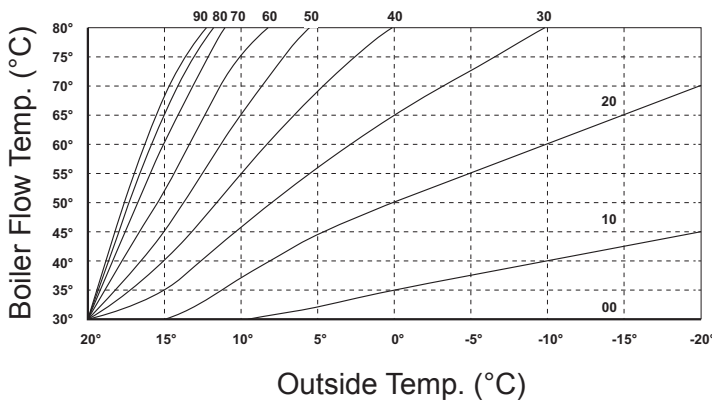

Fig. 30
2. The central heating control knob should be turned clockwise to the position which corresponds with the desired curve as shown on the graph (Fig. 30).
For example, if Curve '40' is selected (Fig. 30), at an outside temperature of 0°C the boiler flow temperature will be 80°C. Consider the type of dwelling and discuss with the user their requirements to determine the most appropriate curve.